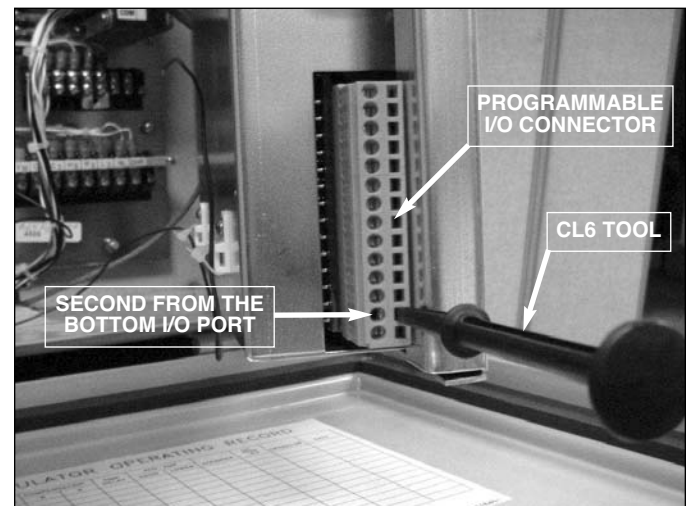

Figure 6.
8. Insert the bare wire of the brown lead into the round connection hole, second from the bottom on the programmable I/O connector (See Figure 6). While holding the wire in place remove the CL6 Tool from the programmable I/O connector.